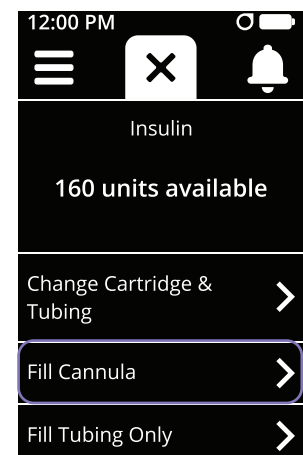

Figure 75
- e. Tap **Fill Cannula** (see Figure 75).